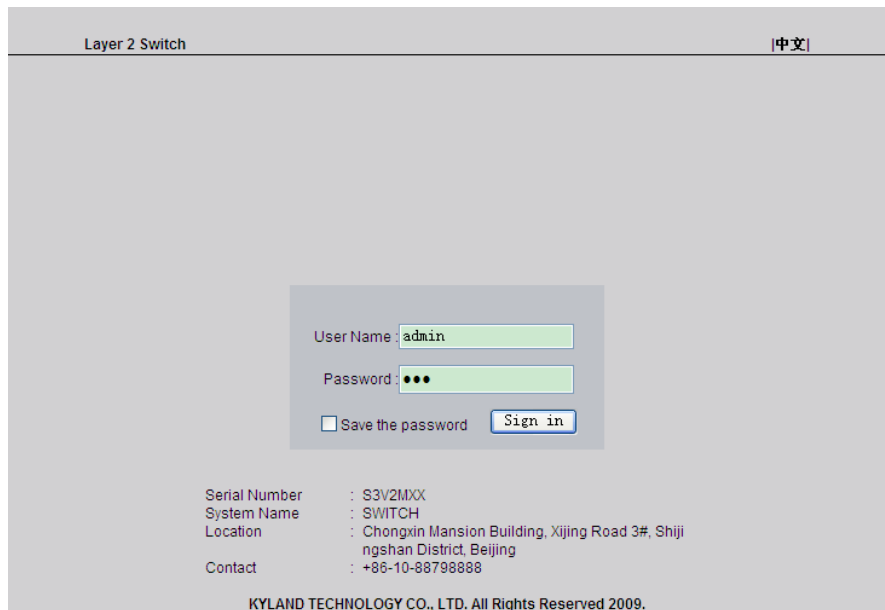

Figure 28 Web Interface Access Screen
2. Input the IP address of the current switch in web browser, the default IP is **192.168.0.2**. The Web interface access screen will appear as shown below in Figure 28, login with default user name “**admin**” and password “**123**”.